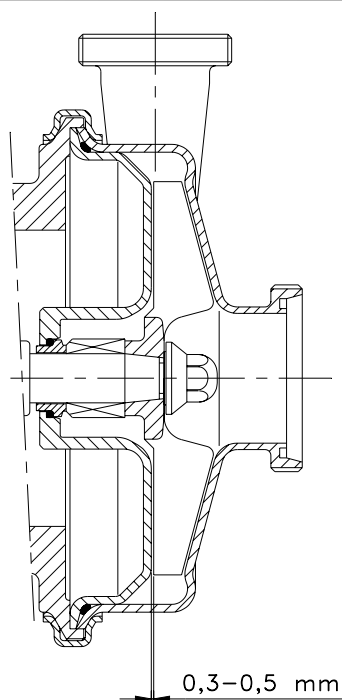

Figure 8.1: Clearance between impeller and pump cover.
- Slide the impeller (02) over the shaft up to the rotating part of the mechanical seal (08).
- Place an open-jaw wrench on the shaft flats (05) to keep it from rotating. Slide the impeller washer (35) into place and tighten the nut (45).
- Check that the clearance between the impeller and the cover (03) remains at 0.3 - 0,5 mm so that the working pressure of the seal would be the correct one; see Figure 8.1.